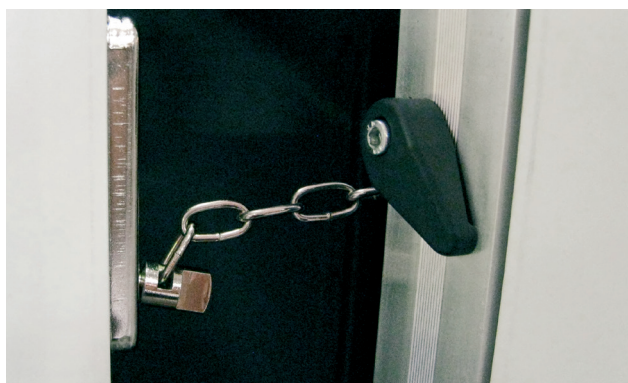

Figure 2
- During operation ensure that the safety chain on the fan section door is secured (Figure 2).